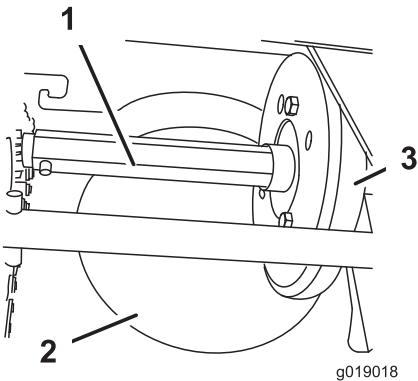

Figure 44
Lightly lubricate the hex shaft yearly with automotive engine oil (Figure 44).
**Important:** Do not get oil on the rubber wheel or the steel friction pulley because the traction drive will slip (Figure 44).